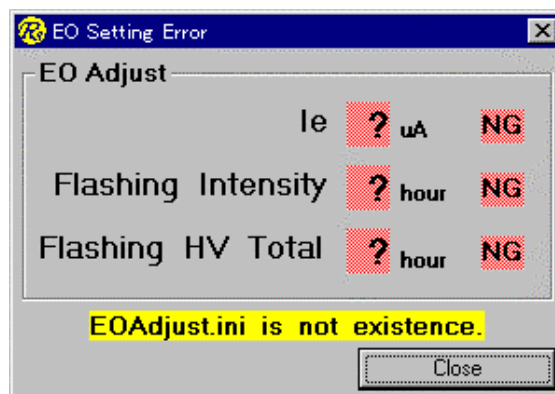
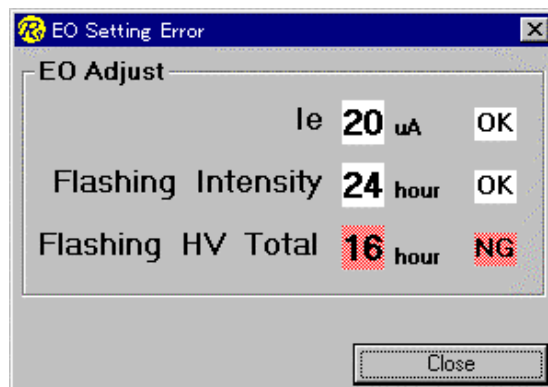

Figure 8-29: EOAdjust.ini File not Found
Figure 8-30: EOAdjust Setting Error
- Whether you press the [YES] button to end the copying process or the [Cancel] button to abort it, either **Figure 8-29** or **Figure 8-30** appears if a file named EOAdjust.ini is not found or the file is set incorrectly.
If any of the above three parameters is set differently, the screen in **Figure 8-30** appears. Clicking on the [Close] button returns control to the Main Screen.